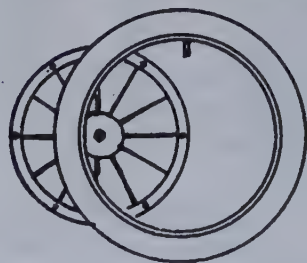

Fig. 2 Quick Detachable Demountable Rim
Fig. 2—Wheel Fitted with Standard Universal Quick-Detachable-DEMOUNTABLE Rim with Clamp Lock, Showing Three Clamps Unlocked (A) and Three Locked in Position (B.)